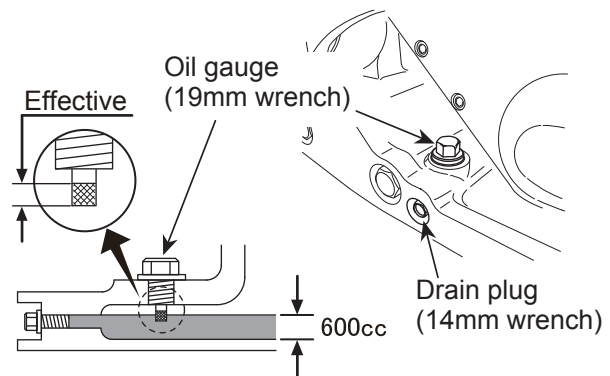

Figure 10. Vibrator Oil Check
2. Check vibrator oil level by removing the oil plug (vibrator oil gauge) as shown in Figure 10. Clean the oil gauge and re-thread back in. Remove the oil gauge again and confirm oil level does not exceed the cross hash of the oil plug. **DO NOT OVERFILL.**